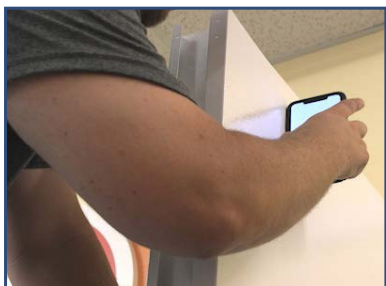

Fig. 86 Check vertical alignment
8. Check the panel's vertical alignment (Fig. 86), adjust if necessary.